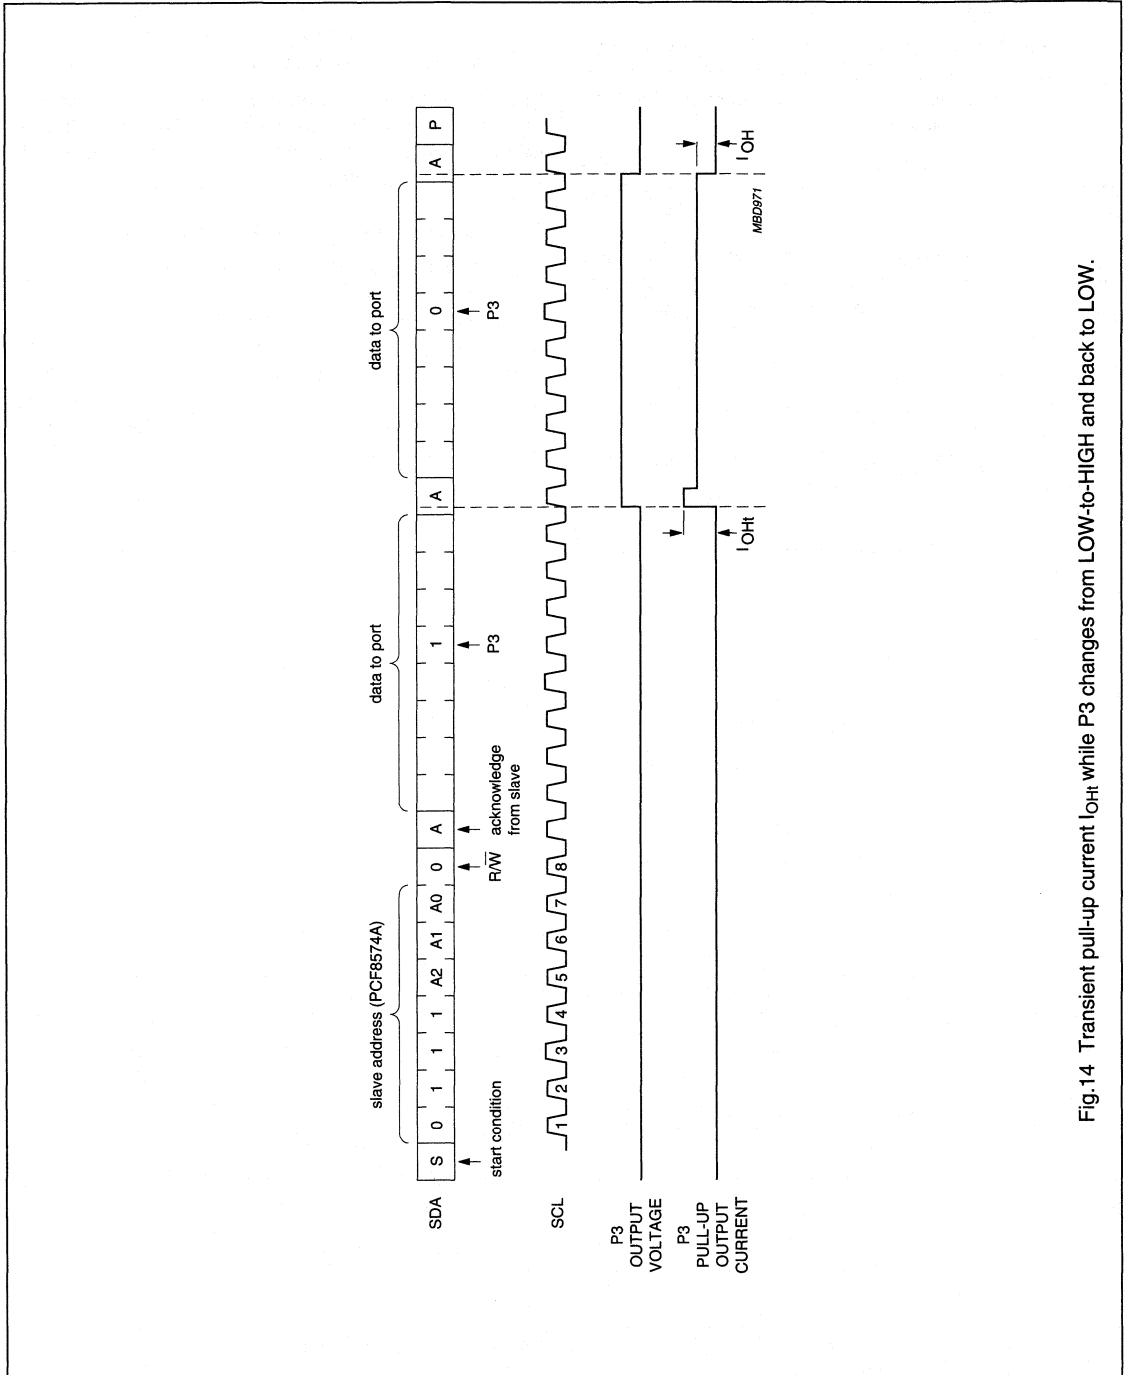

Fig.14 Transient pull-up current I_{OH} while P3 changes from LOW-to-HIGH and back to LOW.
7.3 Quasi-bidirectional I/Os (see Fig. 14)